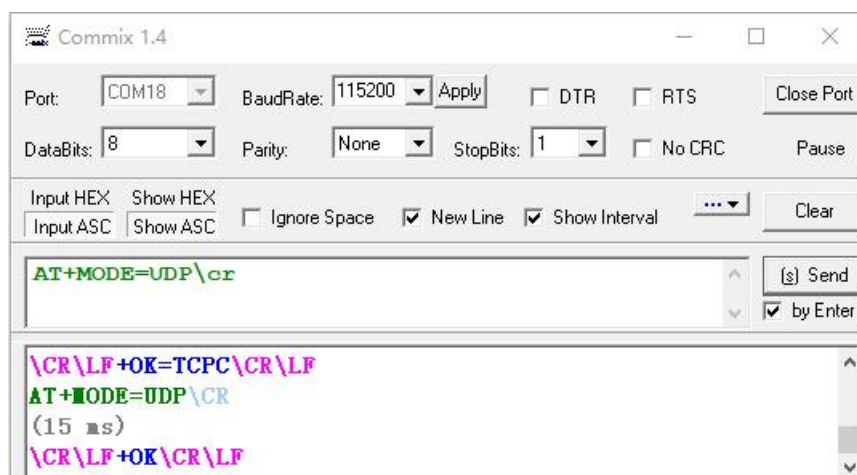

Figure 6-6 AT Command Setting UDP Mode
- 1) Set the module to UDP mode with the destination port set to 60000. Both AT commands and web pages are available Take AT command setting as an example, as shown in Figure 6-6. For specific AT command mode entry operation, please refer to AT. Instruction set portion
2) As shown in Figure 6-6, the receipt of "+ OK" indicates that the module has completed setting the UDP mode. Then exit the at command module The program automatically returns to passthrough mode.